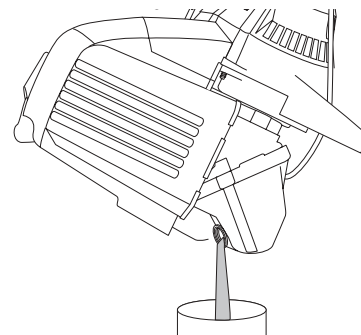

Fig. 18
3. Pour the oil out of the oil fill hole and into a container by tipping the unit to a vertical position (Fig. 18). Allow ample time for complete drainage.